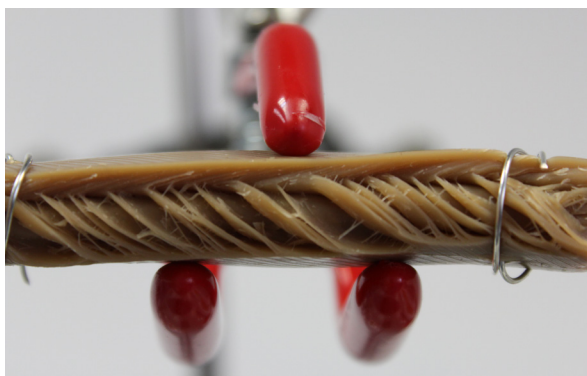
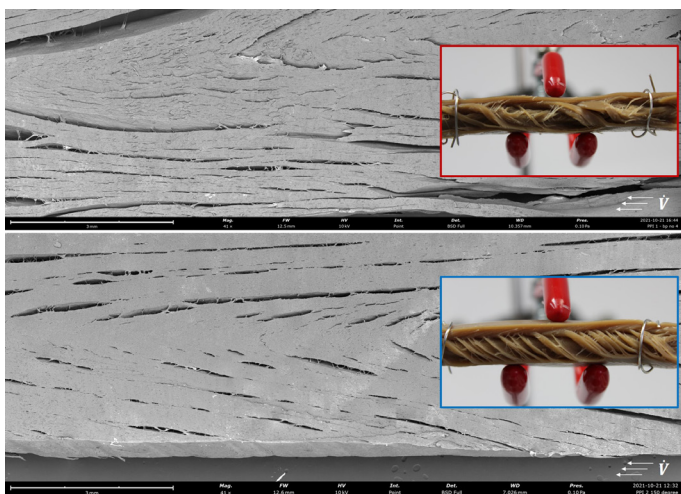

Figure 1: Plant-based meat extrudate made from pea protein isolate with Process 16 Twin-screw Extruder.
Figure 4: Stitched large area scan of plant-based meat extrudates, red: die length = 270 mm; blue: die length: 360 mm.
Twin-screw extrusion is considered a key technology for producing plant-based meat. It utilizes a continuous process with a range of adjustable parameters that enables the production of different textures. To obtain plant-based products with a texture perception similar to that of muscle meat, the extrusion aims to impart an anisotropic, fibrous and gel-like structure into plant proteins. An exemplary product with a typical, meat-like texture is shown in Figure 1.
Figure 4 shows the SEM image of the plant-based meat product displayed in Figure 1. The SEM image reveals that the structure of the sample consists of a gel-like matrix with further embedded elements, which can be identified as dispersed phases. While food scientists are still exploring the nature and composition of the dispersed phases by different analytical techniques, (3) the image allows one to qualify the orientation and anisotropy of the structural elements contributing to the texture perception of the final product.
The Phenom User Interface includes automated software that scans large areas, as shown in Figure 4. These samples were retrieved from varying extruder die lengths. The image indicates that varying the die length imparted different flow patterns into the extruded samples. Putting these images in relation to the visual sample appearance and texture analysis (4) allows product developers to define decisive process conditions that need to be controlled to obtain specific textures. The results shown in Figure 4, for example, indicate that homogeneity of product texture results from varying velocity gradients in the flow profile, which can be controlled via die length.